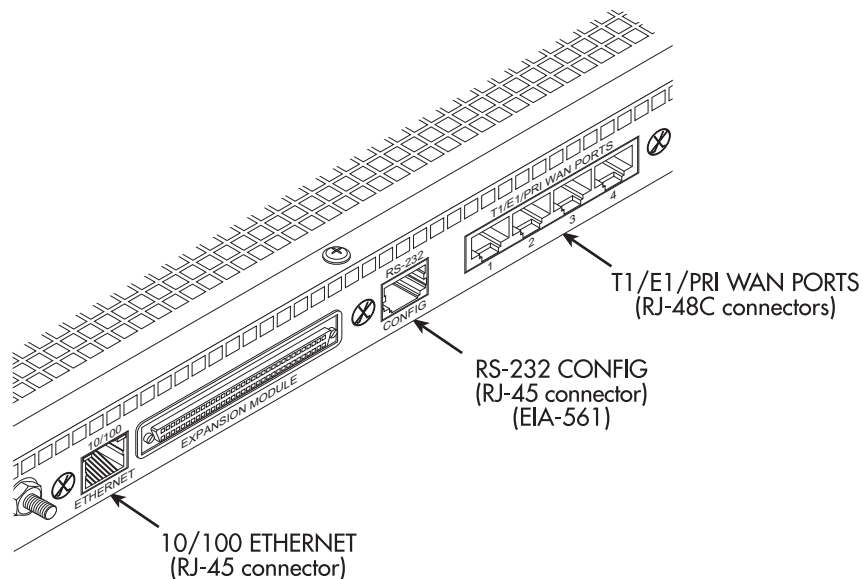
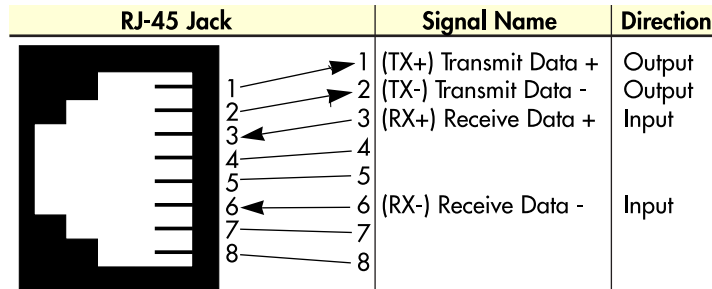
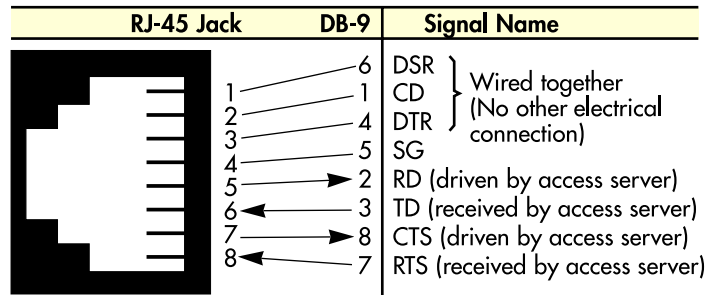

Figure 7. Model 2960/2996 network and configuration ports
Figure 8. Straight-through RJ-45-to-RJ-45 Ethernet cable diagram
Figure 10. DB-9-to-RJ-45 cable diagram
The RAS has a single 10/100 Ethernet interface for connection to your LAN (see figure 7). The Ethernet port will autosense the correct speed of the local LAN and automatically negotiate half- or full-duplex operation. This section describes connecting the RAS to the Ethernet LAN via an Ethernet hub, switch, or workstation.
The 10/100Base-T Ethernet port (see figure 7 on page 24) is designed to connect to an Ethernet switch or hub. Connect a straight-through CAT-5 cable (one wired as shown in figure 8) between the RAS and the hub/switch.
Install the supplied DB-9-to-RJ-45 cable between the RAS RS-232 port (see figure 7 on page 24) and an open serial port on your computer. If you need to assemble your own cable, refer to the pinout diagram in figure 10.
1. If you have not done so already, install the supplied DB-9-to-RJ-45 cable between the RAS RS-232 port (see figure 7 on page 24) and an open serial port on your computer.